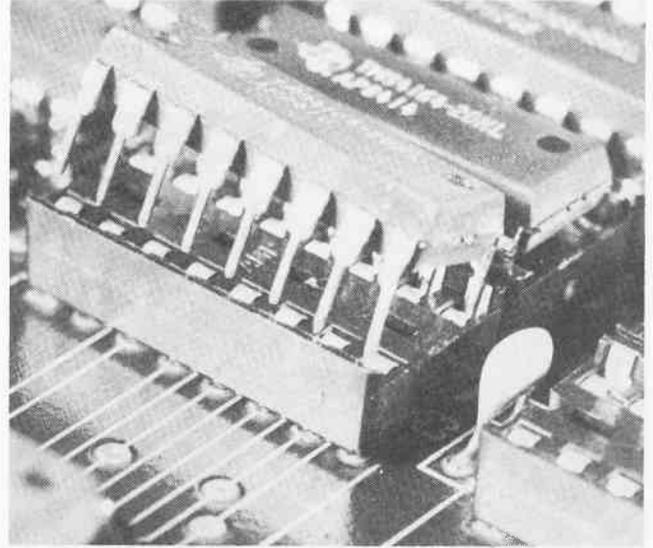

Fig. 3-5. Place the chip over the socket as shown.
- b. Place the chip over the socket, lining up one row of pins with its socket holes, as shown in Fig. 3-5.